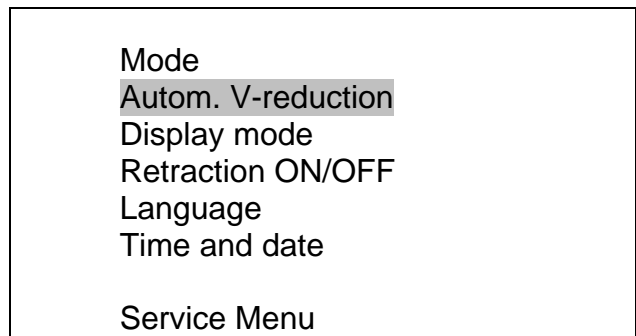

Fig. 48
- To preselect the speed reduction, press the menu button (fig. 47.1) and select the sub menu "Autom. V-reduction" (fig. 48).